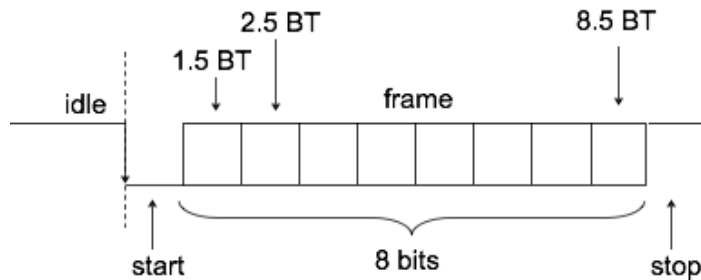

Figure 1. Timing of a MIDI byte
In this lab you will design and implement with programmable logic a serial input port for MIDI (Musical Instrument Digital Interface) data. MIDI messages are described in the Lab 2 assignment. As we know, MIDI messages are transmitted *asynchronously*, as groups of bytes. Each byte is preceded by one START bit and followed by one STOP bit in order to synchronize reception of the data, as shown in Figure 1. A typical MIDI message is composed of three bytes. The second byte contains the *note number*; it can specify 128 different musical note numbers, spanning about 10 octaves. In this assignment, you are going to store and display only the 7 least significant bits of the second byte, which is the note number, in binary.
Before each arriving MIDI byte, the signal line idles high (1). The receiver monitors the line, waiting for the signal to drop to 0. Once the negative-going transition is detected, the receiver synchronizes on this transition and starts sampling the incoming serial stream. Conceptually, the receiver reads the 8 bits of the serial data by sampling the input “in the middle” of each bit, i.e., at 1.5 BT (bit0), 2.5 BT (bit1), ..., 8.5 BT (bit7), as shown in Figure 1. The STOP bit could be sampled at 9.5 BT but in this lab you need not sample the stop bit.